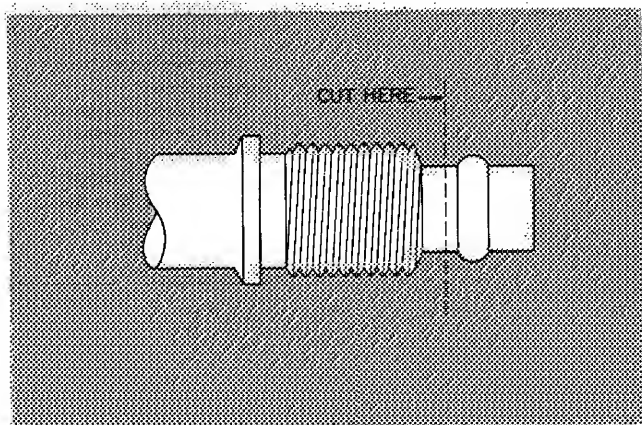

Fig. 9 — Repair of Mechanical Connection
**Leaking Mechanical Connection** — Frontseat condensing unit service valves and relieve refrigerant pressure in tubing. Back locknut off compatible fitting onto tube. Cut fitting between threads and seal ring head as shown in Fig. 9. Remove tubing section remaining in threaded portion of fitting. Discard locknut.